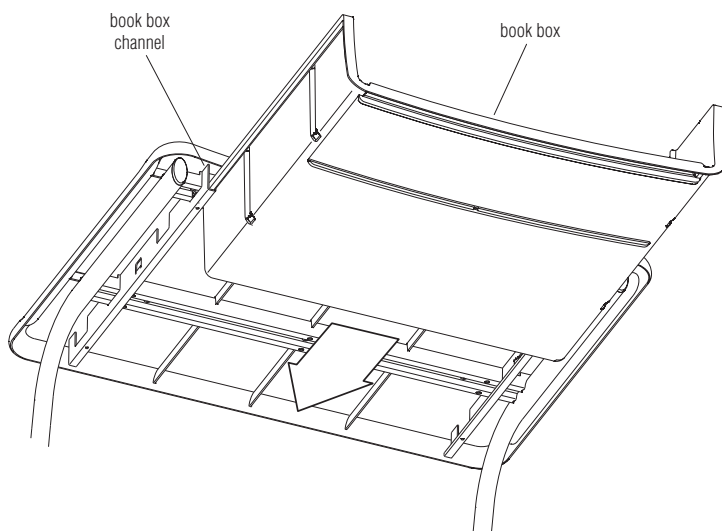

Figure 2
3. Once the clips are assembled at both sides, insert the book box into the book box channels and slide it into place. It will click once if it is fully inserted. The desk is then ready to use (Figure 2).